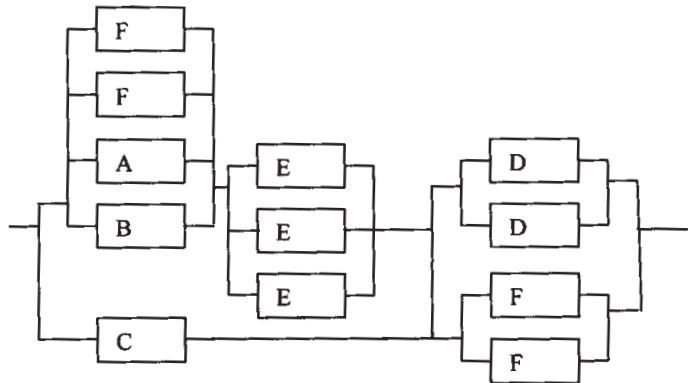

Fig. 1
- Q6) a)** Fig. 1 shows a system configuration. The block shows elements of system and the reliability values of each element are given as $R(A) = 0.96$, $R(B) = 0.94$, $R(C) = 0.99$, $R(D) = 0.85$, $R(E) = 0.90$ & $R(F) = 0.92$. Find the system reliability. [8]